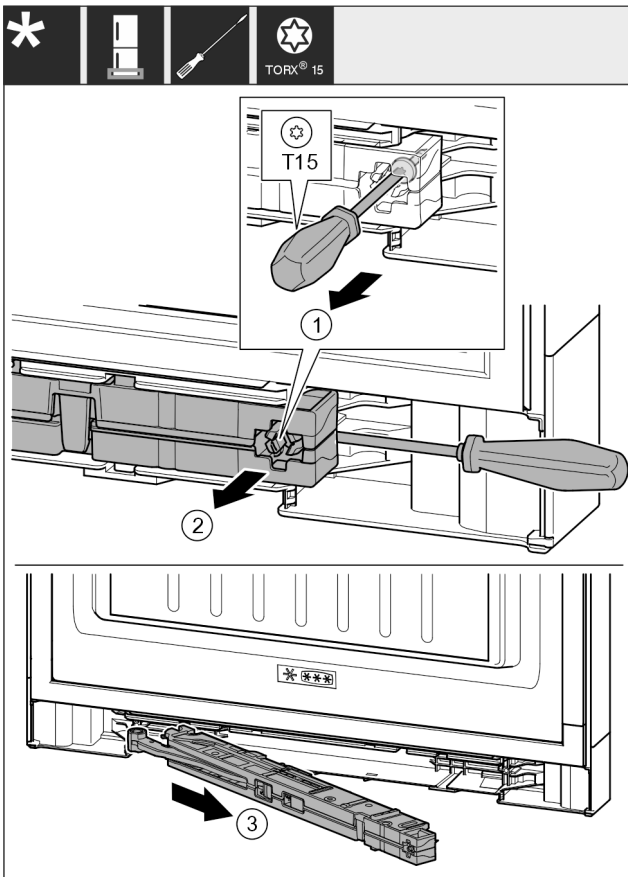

Fig. 15
- Undo the soft stop unit screw with a T15 screwdriver approx. 14 mm (0.55 in). Fig. 15 (1)
- Insert the screwdriver on the handle side behind the soft stop unit. Turn the unit forward. Fig. 15 (2)
- Pull out the unit. Fig. 15 (3)